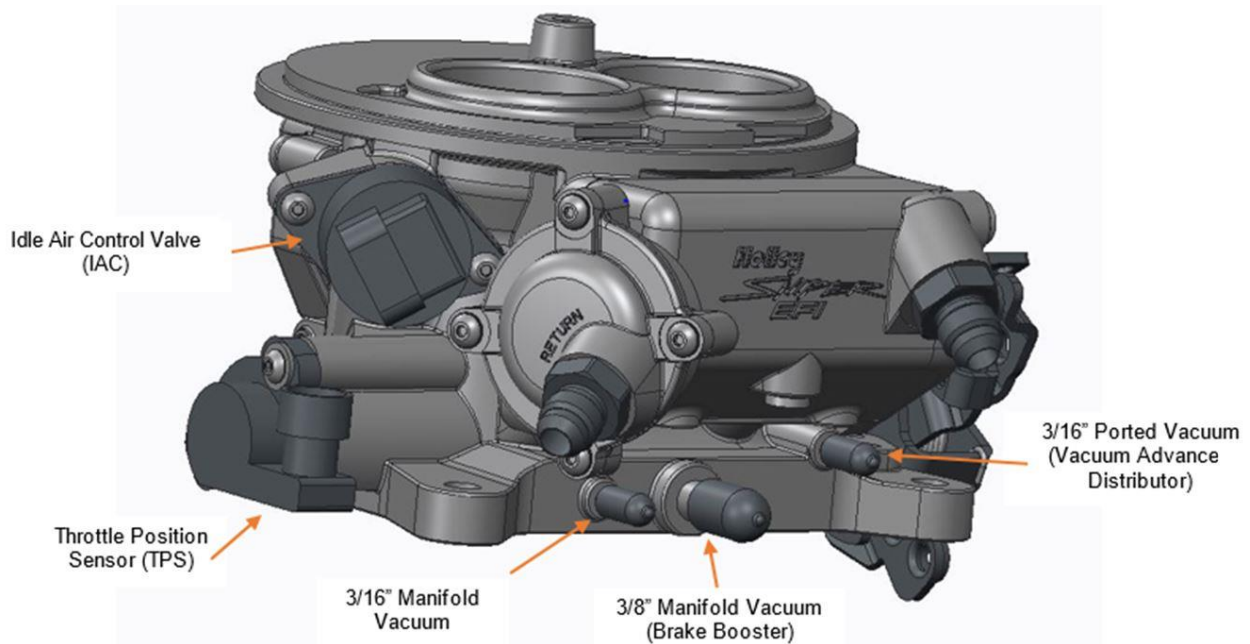

Figure 3
5. Reconnect the appropriate vacuum hoses to the Sniper EFI throttle body. **Be sure to plug any vacuum sources not used on both the Sniper EFI Throttle Body and on the Engine.** See Figure 3 for diagram of vacuum ports.